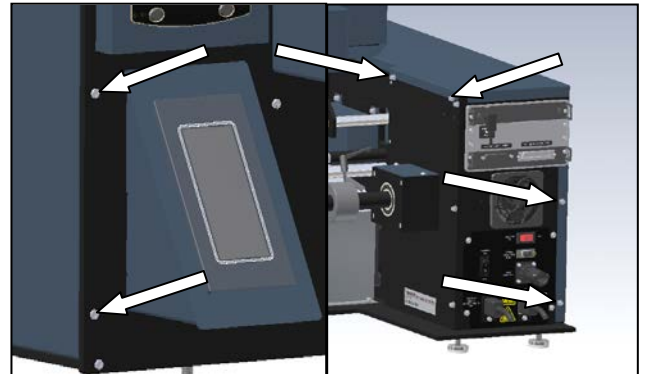

Figure 3-133. Frame Cover Screws
1. Remove the six screws holding the Frame Cover, set screws and Frame Cover aside (Figure 3-133).